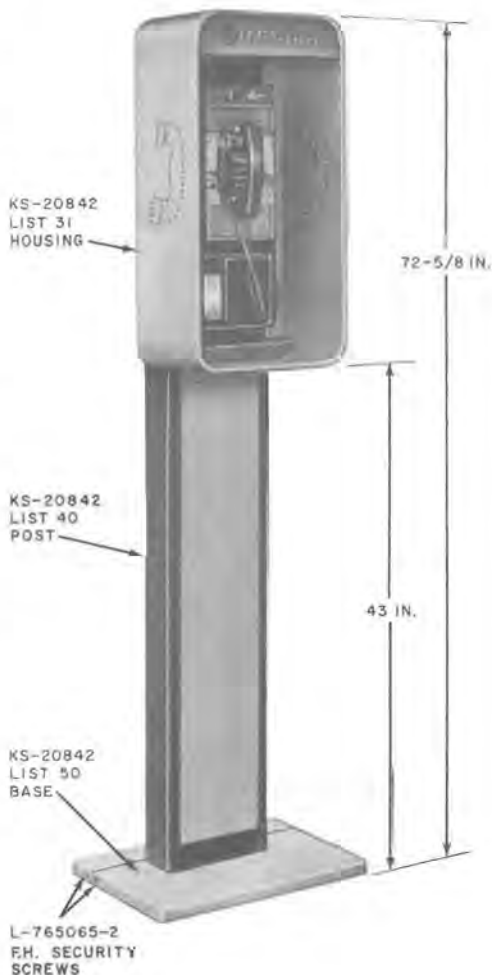

Fig. 1—KS-20842, List 5 Telephone Mounting
2.01 The KS-20842 mounting (Fig. 1 and 2) consists of a post, a shelf or housing, and a base. Refer to Table A for the various combinations of the shelf, housing, and base that may be used with the post to make up the different mounting assemblies.
2.04 The List 40 post (Fig. 1) is common to each of the mounting assemblies. The post is approximately 5-1/2 feet high, 10 inches wide, and 4 inches deep. A black textured vinyl finish covers the 3/16-inch thick steel unit.
2.10 *List 50 regular base* (Fig. 1) is 20 inches long, 14 inches wide, 7/8-inch thick, and weighs approximately 70 pounds. Ten holes are provided for securing the base to a mounting surface. Two aluminum covers protect the mounting hardware and provide a finished appearance. The regular base is used in all pedestal installations except next-to-wall or back-to-back installations.
2.13 An aluminum housing, 14-5/8 inches wide, 9-1/2 inches deep, 29-1/2 inches high, and 1/4-inch thick, is provided for indoor and outdoor use. The housing mounts on top of post (Fig. 1) and may be installed or replaced without removing the telephone or interrupting the telephone service.